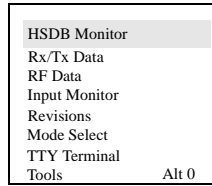

Figure B-3 HARDWARE MENU
3. Select menu item Hardware > Tools (see Figure B-3).